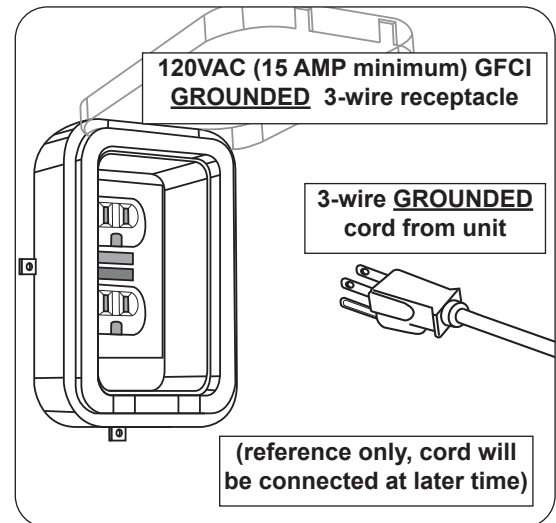

Fig. 3-1 Electrical setup detail
1. Prepare a cut-out in the countertop as specified in Table 1 and shown in Fig. 3-1.